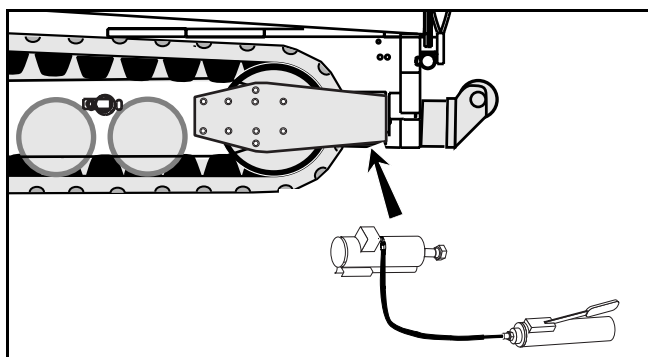

Figure 6 - 65 Insert Porta-Power
- 8) Un-bolt and remove screed pull arm. (Figure 6 - 66)